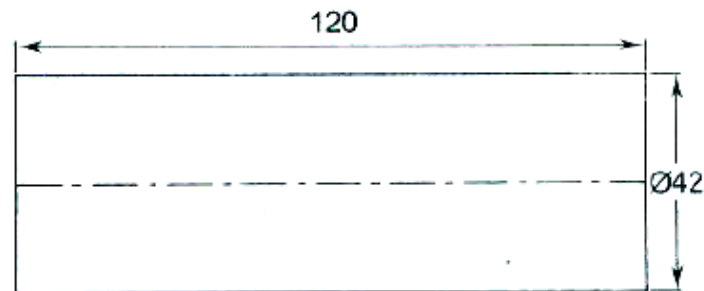

Fig. Q5C
- shown in Fig Q5C. The available spindle speeds are 70, 110, 176, 280, 440, 700, 1100, 1760 and 2800. Use a roughing speed of 30 m/min and finish speed of 60 m/min. The feed for roughing is 0.24 mm/rev while that for finishing is 0.10 mm/rev. The maximum depth of cut for roughing is 2 mm. Finish allowance may be taken as 0.75 mm. Blank to be used for machining is 50 mm in diameter.